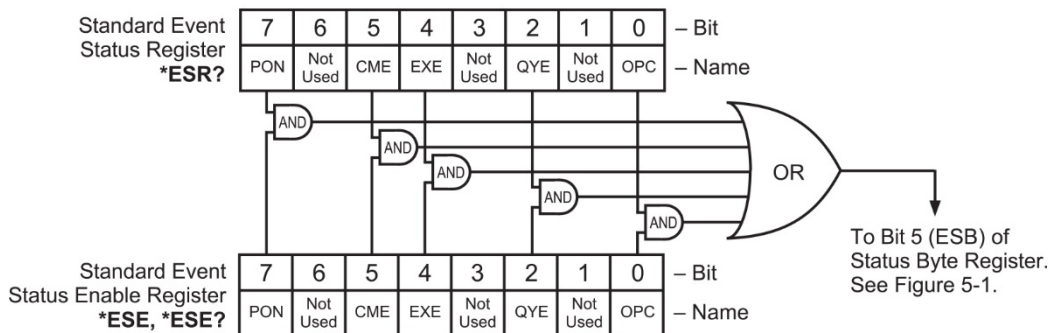

Figure 5-2. Standard Event Status Register
The Standard Event Status Register reports the following interface related instrument events: power on detected, command syntax errors, command execution errors, query errors, operation complete. Any or all of these events may be reported in the standard event summary bit through the enable register, see Figure 5-2. The Standard Event Status Enable command (\*ESE) programs the enable register and the query command (\*ESE?) reads it. \*ESR? reads and clears the Standard Event Status Register. The used bits of the Standard Event Register are described as follows:
The Hardware Error Status Register reports the following instrument hardware error events: DAC processor not responding, output control failure, output over voltage, output over current, low line voltage, temperature fault. Any or all of these events may be reported in the standard event summary bit through the enable register, see Figure 5-2. The Hardware Error Status Register is the first value of the three values associated with the Error Status Registers. The Error Status Enable command (ERSTE) programs the enable register and the query command (ERSTE?) reads it. ERSTR? reads and clears the Error Status Register. The used bits of the Error Status Event Register are described as follows:
The Operational Error Status Register reports the following instrument operational error events: magnet discharging through crowbar, magnet quench detected, remote inhibit detected, temperature high, high line voltage, external current program error, calibration error. Any or all of these events may be reported in the standard event summary bit through the enable register, see Figure 5-2. The Operational Error Status Register is the second value of the three values associated with the Error Status Registers. The Error Status Enable command (ERSTE) programs the enable register and the query command (ERSTE?) reads it. ERSTR? reads and clears the Error Status Register. The used bits of the Error Status Event Register are described as follows:
The PSH Error Status Register reports the following PSH error events: PSH short, PSH open circuit. Any or all of these events may be reported in the standard event summary bit through the enable register, see Figure 5-2. The PSH Error Status Register is the third value of the three values associated with the Error Status Registers. The Error Status Enable command (ERSTE) programs the enable register and the query command (ERSTE?) reads it. ERSTR? reads and clears the Error Status Register. The used bits of the Error Status Event Register are described as follows:
4. Configure the GPIB by selecting the System icon in the Windows 98/95 Control Panel located under Settings on the Start Menu. Configure the GPIB Settings as shown in Figure 5-1. Configure the DEV12 Device Template as shown in Figure 5-2. Be sure to check the Readdress box.